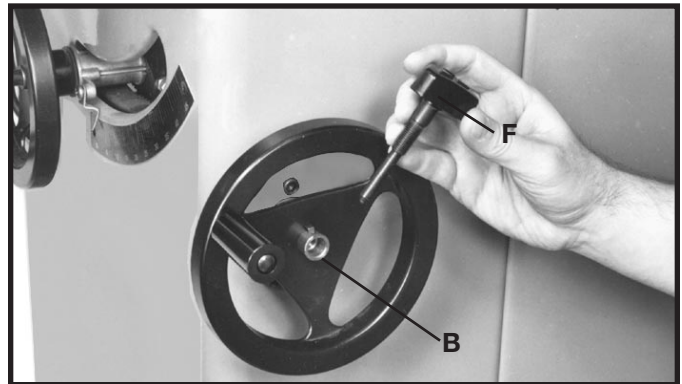

Fig. 4
4. Install lock knob (F) Fig. 4, into threaded end of the shaft (B). Hand-tighten lock knob at this time.